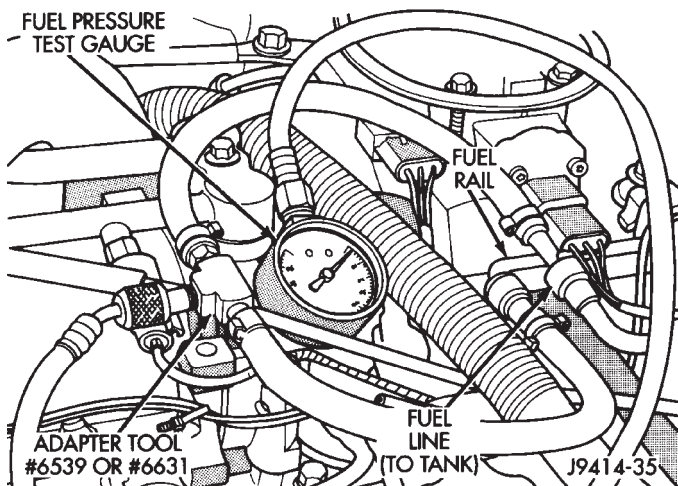
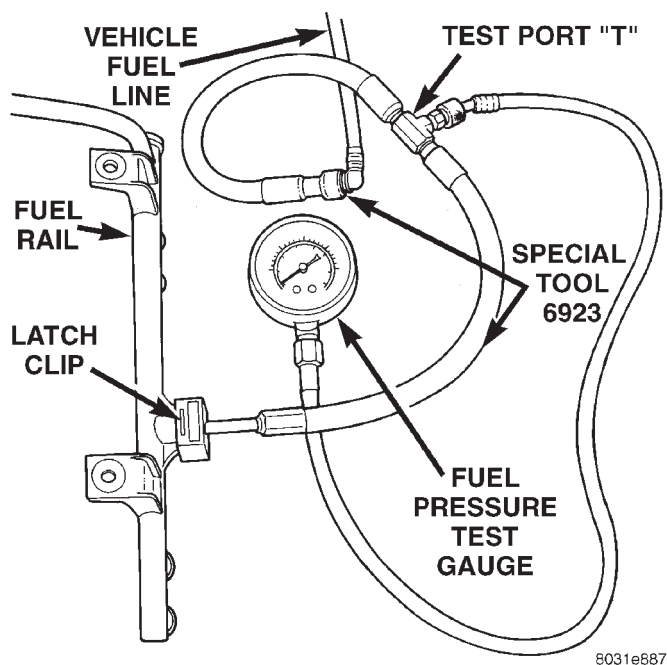

Fig. 10 Connecting Adapter Tool—Typical
Fig. 11 Connecting Adapter Tool—Typical
(1) Disconnect the fuel inlet line at fuel rail. Refer to Fuel Tubes/Lines/Hoses and Clamps in this section of the group for procedures. On some engines, air cleaner housing removal may be necessary before fuel line disconnection.
(2) Connect the appropriate Fuel Line Pressure Test Adapter Tool (number 6539, 6631, 6541 or 6923) between the disconnected fuel line and fuel rail (Fig. 10) or (Fig. 11).
(3) Connect the 0–414 kPa (0–60 psi) fuel pressure test gauge (from Gauge Set 5069) to the test port on the appropriate Adapter Tool. **The fittings on both tools must be in good condition and free from any small leaks before performing the proceeding test.**
(4) Start engine and bring to normal operating temperature.
(5) Observe test gauge. Normal operating pressure should be 339 kPa \pm 34 kPa (49.2 psi \pm 5 psi).
(6) Shut engine off.